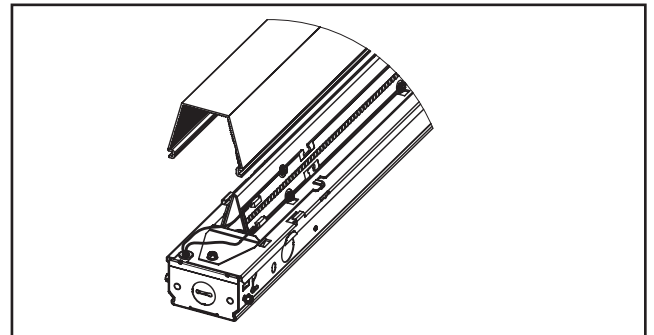

Figure 1.
2. Remove lens from channel cover. (Figure 1.)